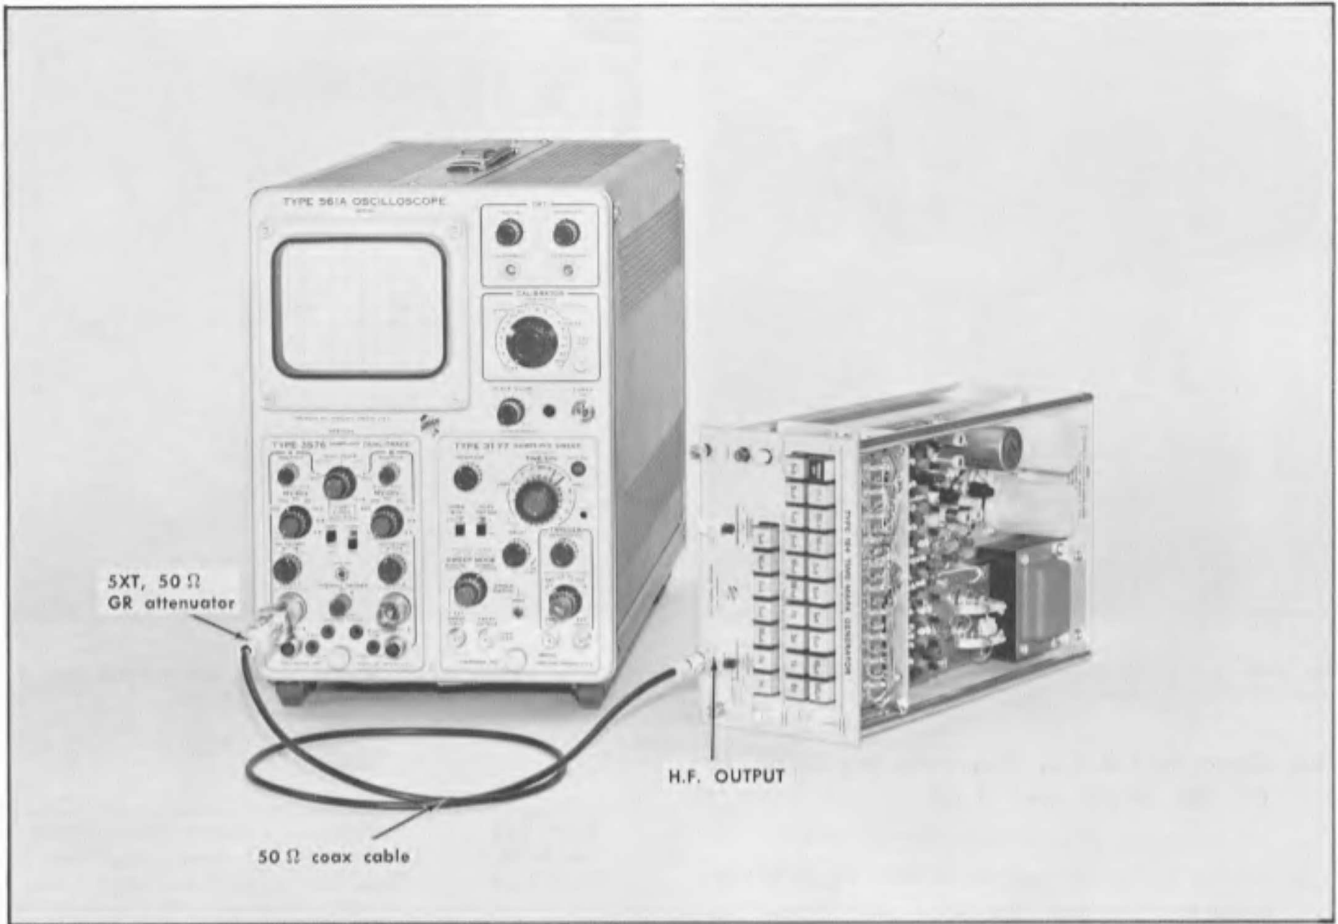

Fig. 6-20. Test equipment setup to check and adjust 2 ns and 5 ns sine-wave markers. Step 11.
- a. Test equipment setup is shown in Fig. 6-20.